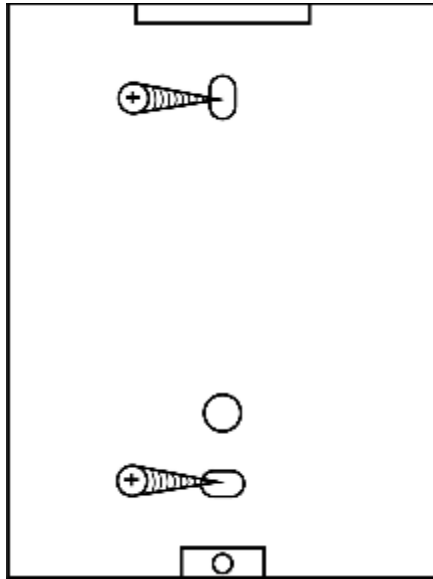

Figure1
8.1.1 On the wall of the aperture size machine on the pan is playing well with a hole, or installed 2 existing junction box plus connecting.(Figure 1)